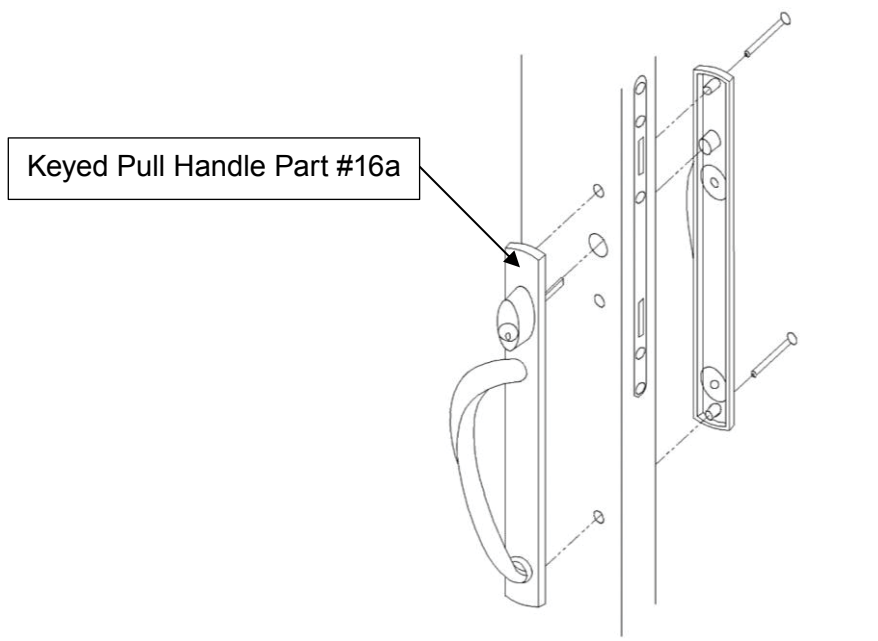

FIGURE 23
27. Install the pull handle (Part #16a, 16b, or 16c) by inserting the exterior and interior handle into the pre-drilled holes. Secure the handle by installing the screws included with the handle kit on the interior side as shown in figure 23.